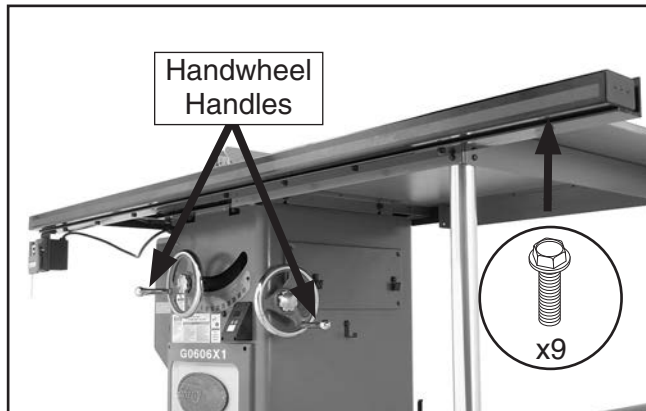

Figure 37. Fence tube mounted to front fence rail.
4. Secure the lower shelf brackets to the support legs and cabinet with (4) M6-1 x 12 hex bolts, (4) 6mm flat washers, and (2) M6-1 hex nuts.
6. Place the 91³/₈" fence tube over the 91¹/₄" front rail, secure with (9) M8-1.25 x 12 flange bolts, as shown in **Figure 37**, then install the handwheel handles.